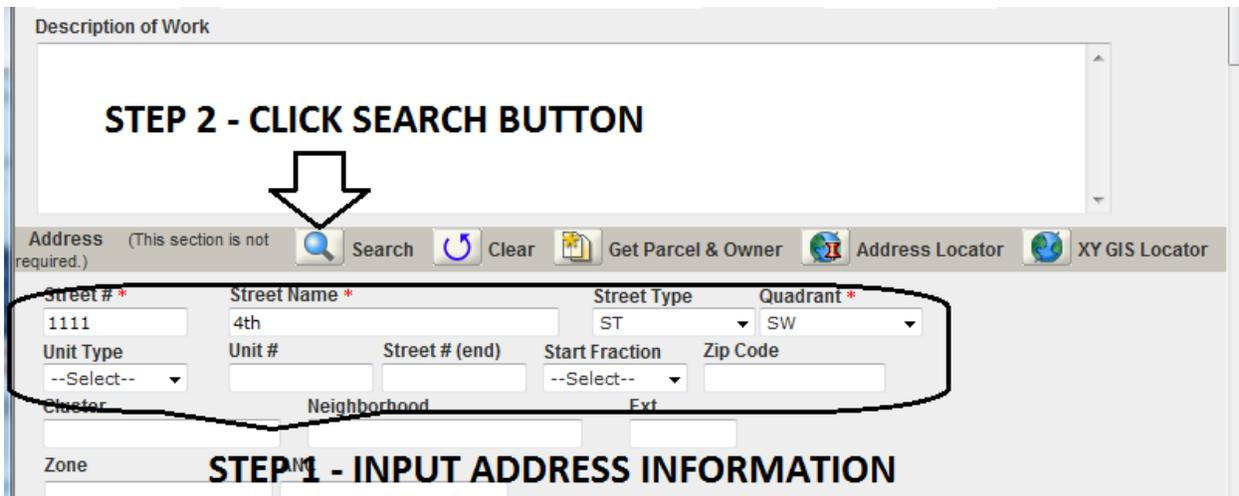

Figure 2.4
7. Input the complete address on the application, quadrant included, and then click the “Search” button. (see Figure 2.4)